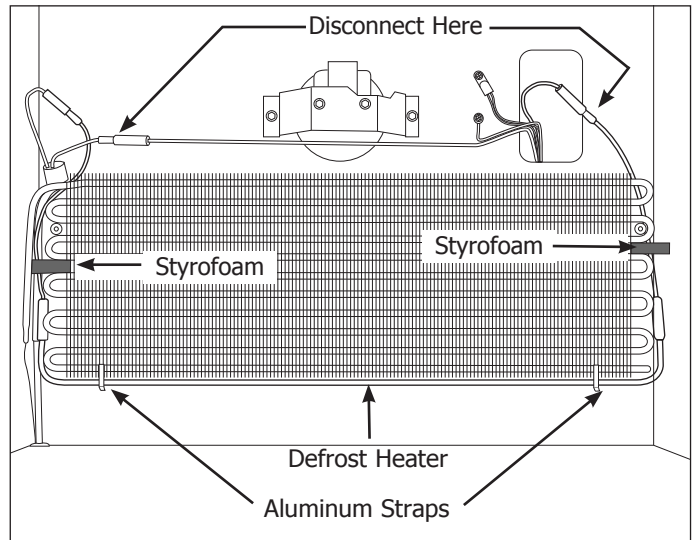

Figure 5-20. Defrost Heater Removal
The defrost heater is secured with two aluminum straps to the bottom tube of the evaporator assembly. (See Figure 5-20)
4. Disconnect the defrost heater wire leads from the wire harness. (See Figure 5-20)